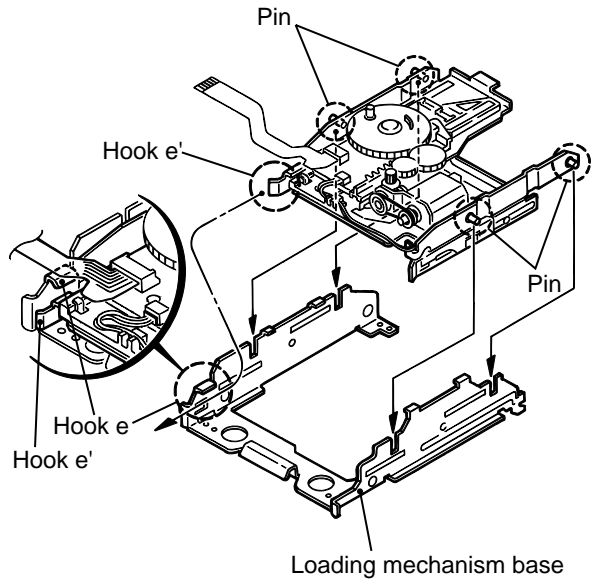

Fig.23
8. Reattach the UD base while engaging the four pins on both sides of the UD base to the notches of the loading mechanism base and placing the edge (marked e') of the cartridge holder assembly under the hook e of the loading mechanism base. (Fig.23)